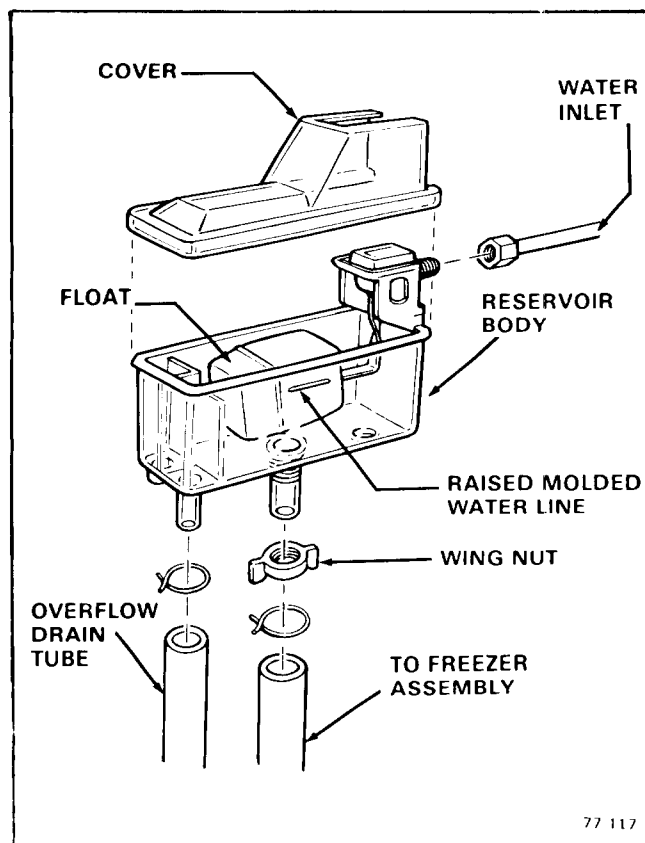

Figure 4-5. Removal of the Water Reservoir Assembly
- A. To Remove the Water Reservoir Assembly, see Figure 4-5.